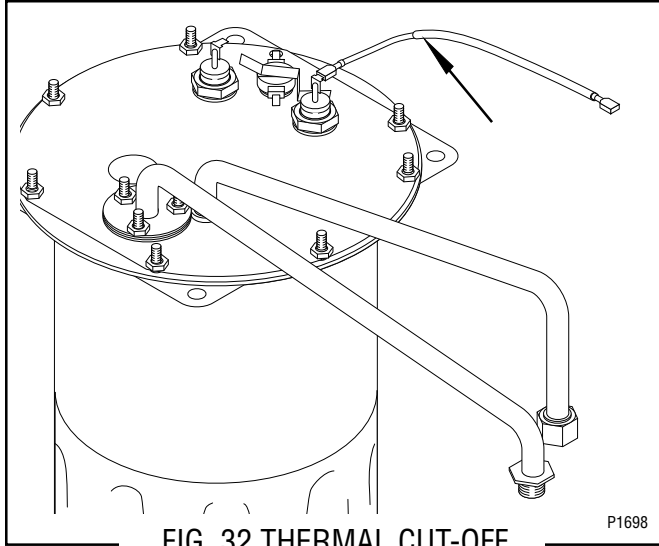

FIG. 32 THERMAL CUT-OFF
The thermal cut-off is located on the tank heater, FIG. 32.
4. Refer to FIG. 32 when reconnecting wires.